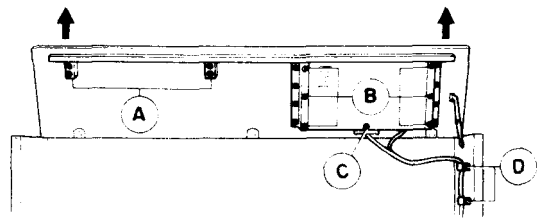

Figure 5.
- 12) Remove the following screws shown in Figure 5: the four at (A), the six at (B), the one at (C) and the two at (D).